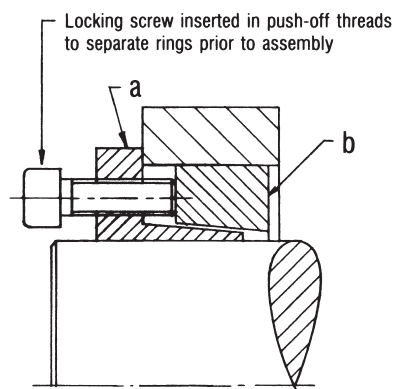

Fig. 3
2. Back-off all locking screws by at least two turns. Take out 3 or 4 equally spaced screws and insert them into adjacent push-off threads after first removing the protective plastic caps. Turn them in hand tight until they make contact with part (b), see Fig. 3. This will keep parts (a) and (b) spaced apart for easy insertion of Locking Assembly into the hub bore, as illustrated in Fig. 3.